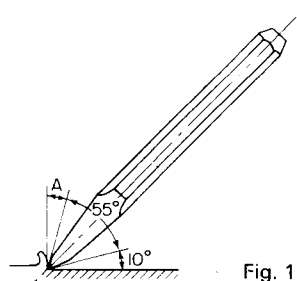

Fig. 11
24. Fig. 11 shows a cold chisel in the act of cutting. The angle marked A is the
25. The angle marked A in Fig. 11 is